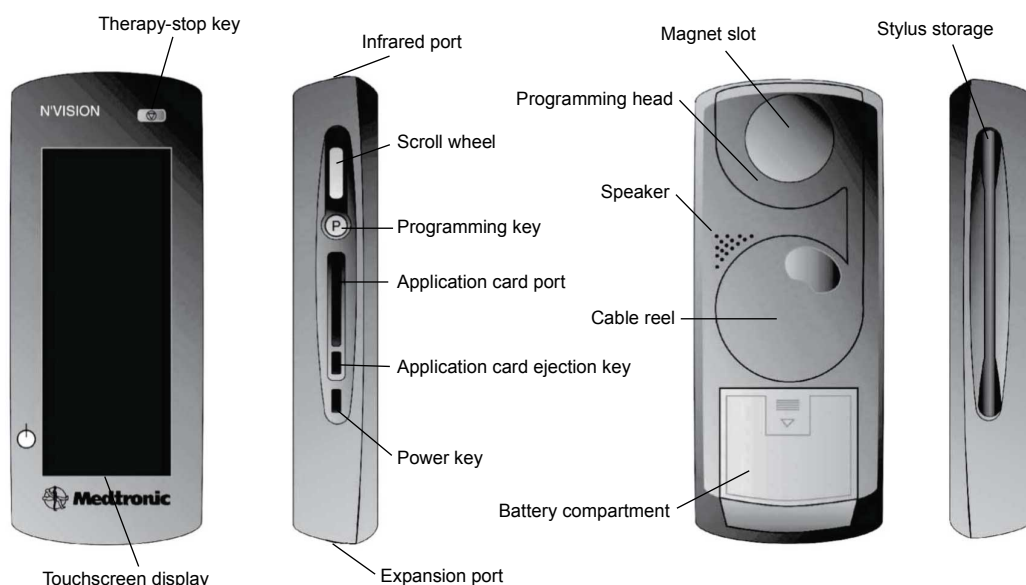

Figure 1. *N'Vision clinician programmer components.*
The Model 8840 N'Vision Clinician Programmer (Figure 1) with the Model 8870 Application Card is a hand-held device for programming Medtronic devices for Medtronic Neurological therapies. The programmer is used to review and program device parameters using telemetry, a radio-frequency (RF) communication. The programmer is also used to set limits for the patient control devices.